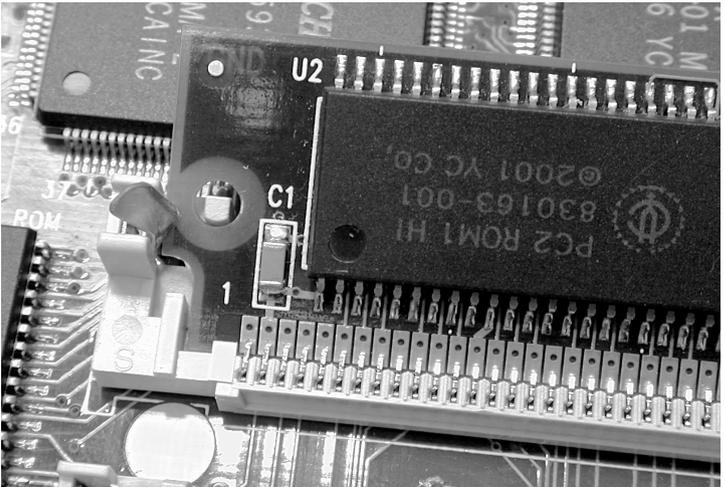

Figure 19 Option board installed on PCX-1 board
5. Figure 19 shows how the option board looks when it's installed properly on the PCX-1 board.